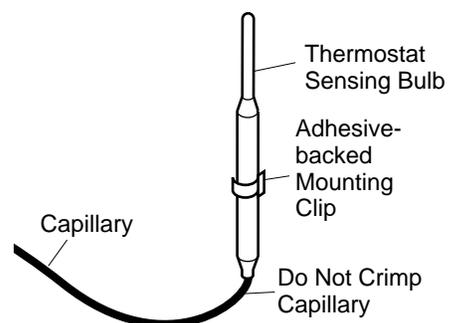

Figure 52 - Positioning the Thermostat Sensing Bulb in the Vertical Position with the Capillary at the Bottom
4. The mounting clip must be a minimum of 3" from bottom of fireplace to prevent crimping of capillary. Once you have decided on a location, clean the area thoroughly. Remove the paper backing from the adhesive on back of mounting clip. Press the clip into the new location so that the thermostat sensing bulb will be positioned vertically with the capillary at the bottom (see Figure 52). Slide the thermostat sensing bulb into the clip.